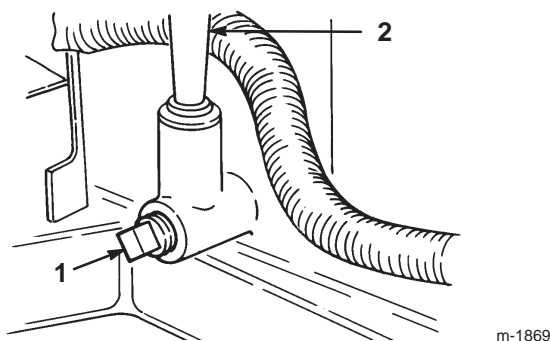

Figure 15
9. Place a drain pan below the oil dipstick/fill tube and remove the drain plug (Fig. 15).